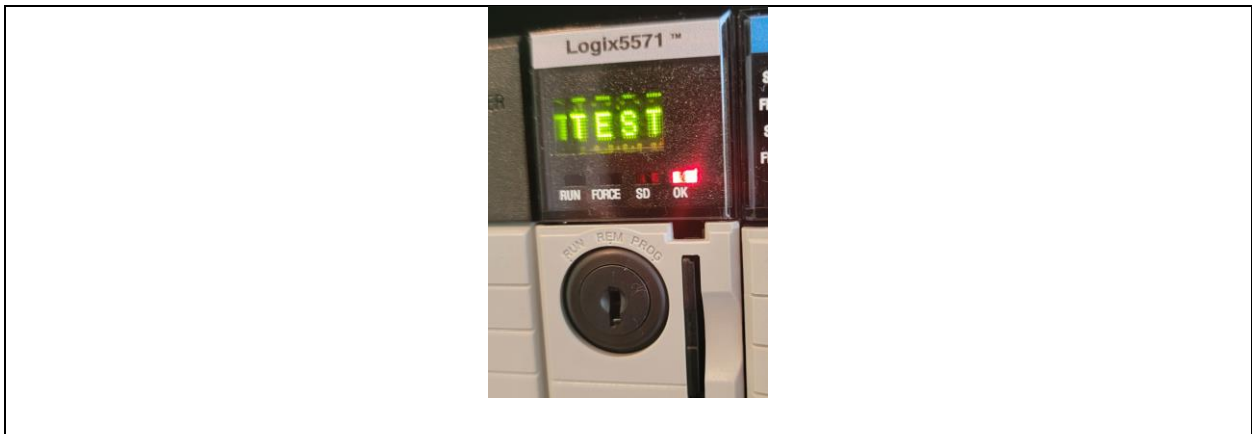

Figure 2. The scrolling display on the controller.
1. **Reinsert the modules and controller into their respective slots**, then power up the ControlLogix system. Monitor the scrolling display and indicators on the processor, as shown in Figure 2.